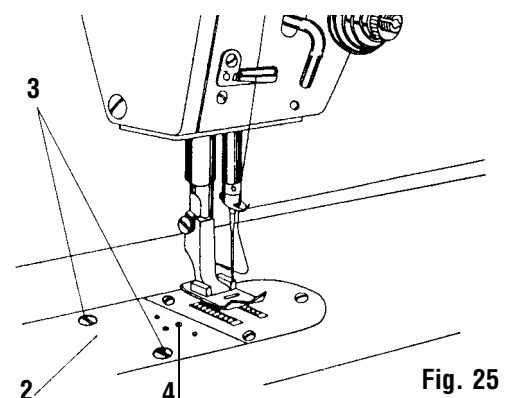

Fig. 25
26. Setting of the stationary knife pressure (Fig. 25)
29. Dismounting and mounting of the plate (Fig. 25)